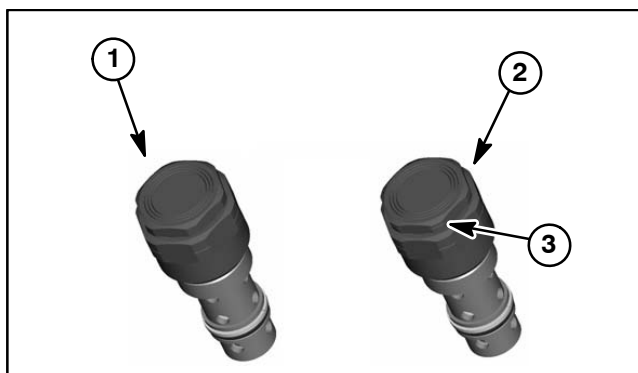

Figure 84
32. Thread relief cartridges into correct center case ports and torque from **24 to 27 ft-lb (32 to 37 N-m)**. The reverse relief valve cartridges can be identified by the groove in the hex head (Fig. 84).